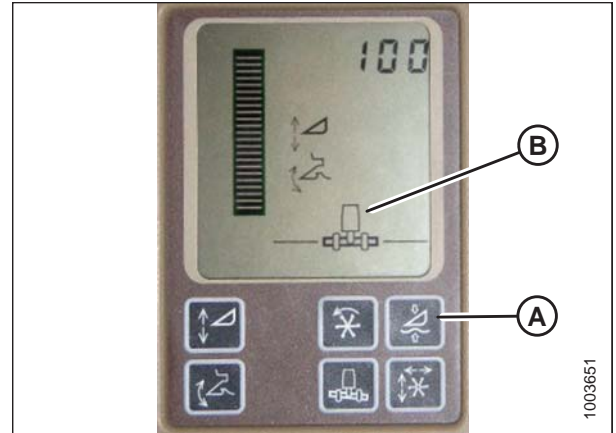

Figure 3.400: John Deere Combine Display
Do **NOT** use the active header float function (A) in combination with the MacDon auto header height control (AHHC)—the two systems will counteract one another. The header symbol (B) on the display should **NOT** have a wavy line under it and should appear exactly as shown on the Active Header Control Display in Figure 3.400, page 233.